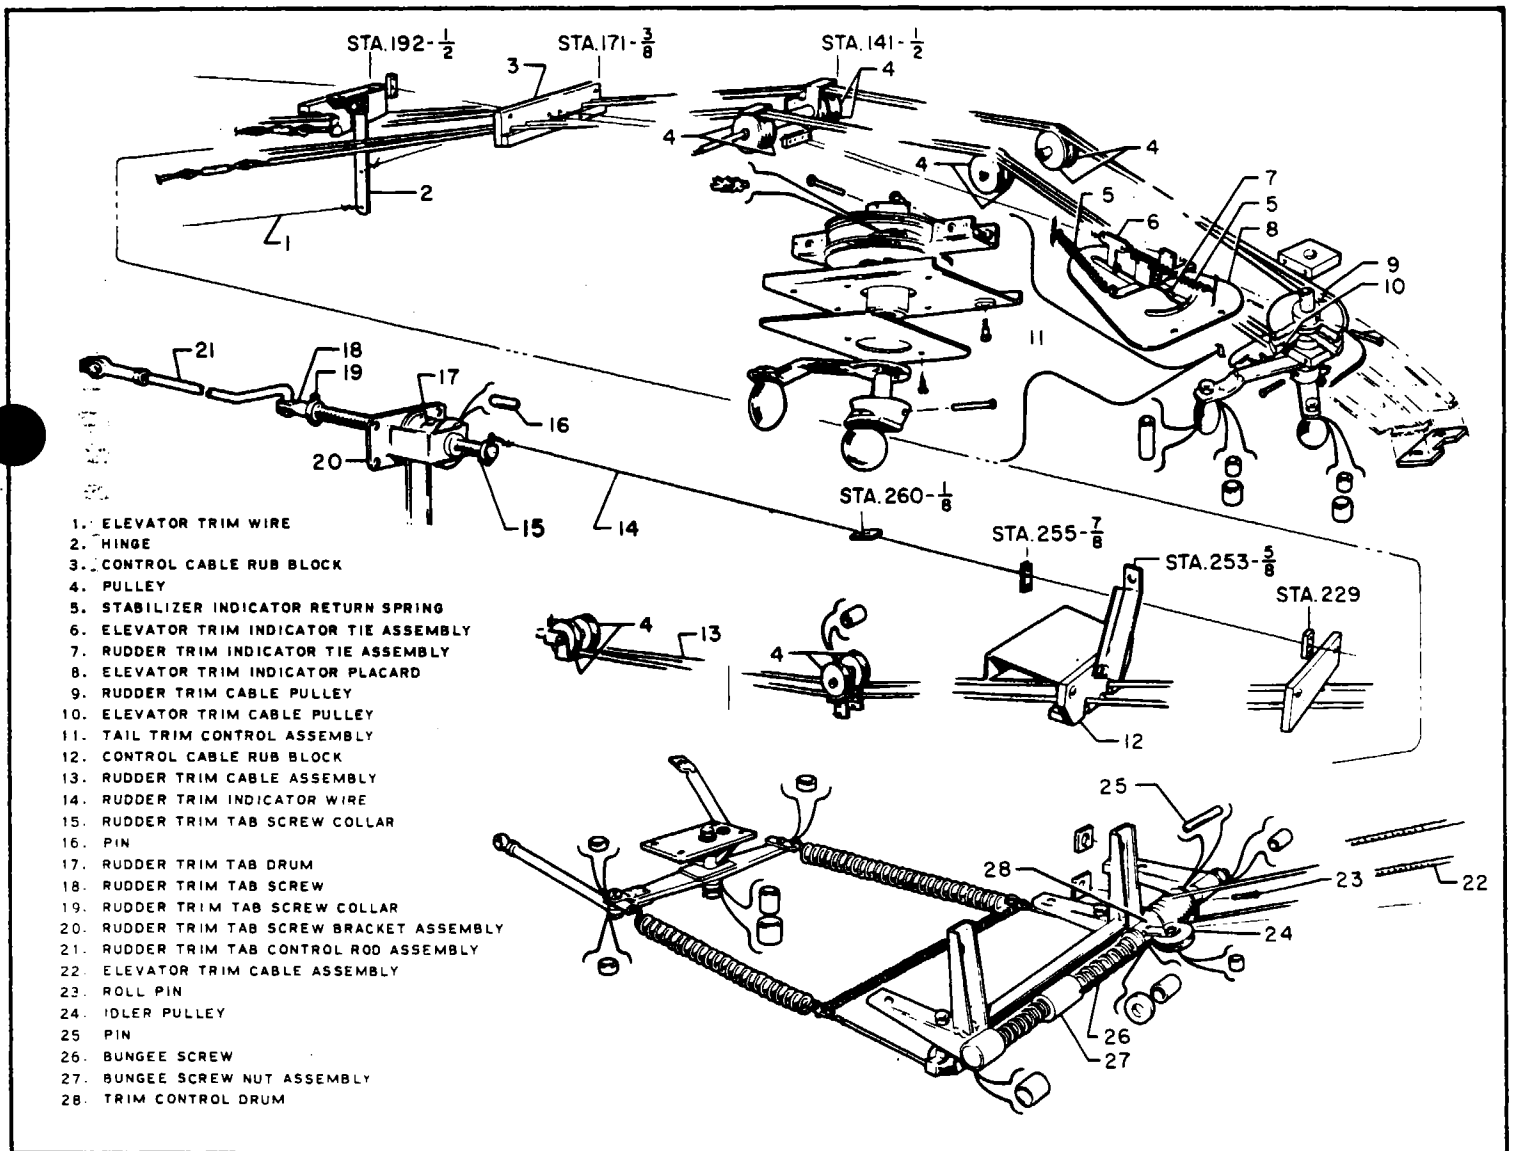
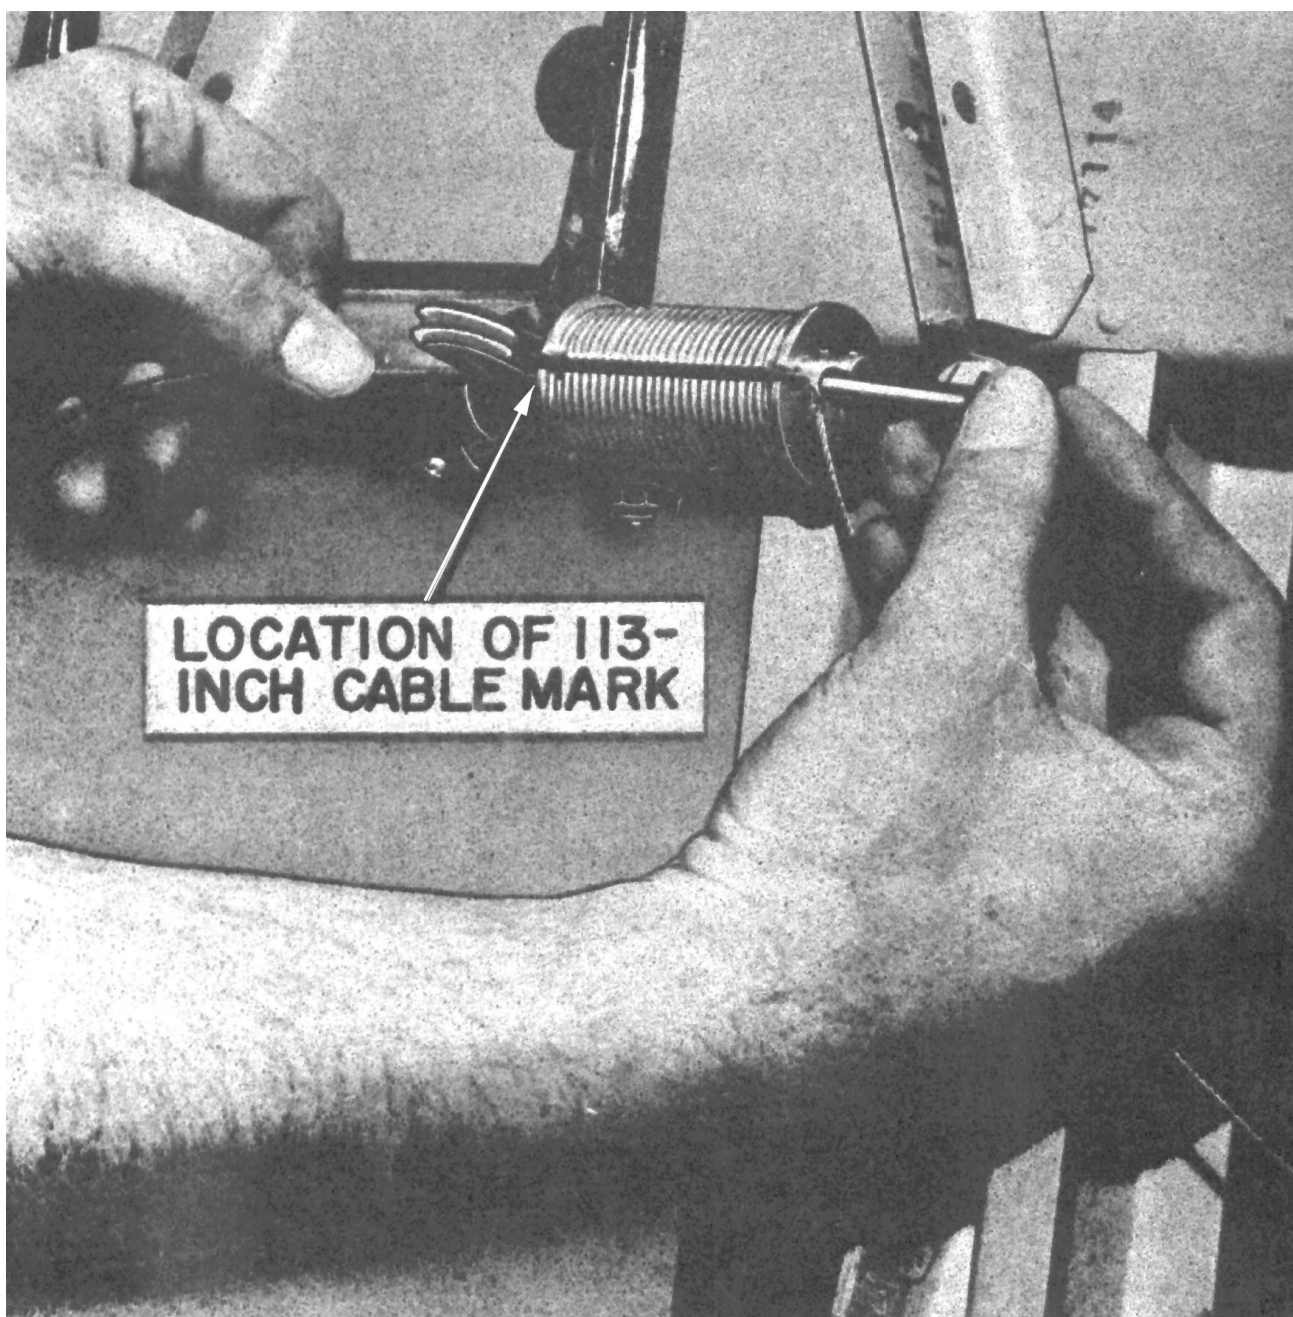

Figure 5-4. Tail Trim Mechanism Installation
Figure 5-9. Installing Elevator Trim Drum Cable Locking Pin
#### 5-7. REMOVAL AND INSTALLATION OF THE TAIL TRIM MECHANISM INSTALLATION. Removal and installation of the tail trim mechanism installation must agree with the configuration of Figure 5-4. Refer to the rigging instruc-
5-8. REMOVAL AND INSTALLATION OF THE TAIL TRIM MECHANISM INDICATOR WIRES. Removal and installation of the indicator wires must agree with the configuration of Figure 5-4. Refer to the rigging instructions of Paragraphs 5-14 and 5-17 for the rudder and elevator trim indicator wires. Use 0.024 inch diameter wire for the indicator wires.
a. Thread the rudder trim cable assembly (13, Figure 5-4) through the second slot from the right end of the control cable rub block (3) attached to the top of the bulkhead at Station 171-3/8, just aft of the tubular structure. Pass it over the two inboard right vertical pulleys (4), around the right side of the top pulley and the rudder trim cable pulley (9) at the tail trim control assembly (11). See Figure 7-4 for the rigging configuration.
b. Mark a point 43-1/2 inches forward of the control cable rub block (12). The
i. Position the rear rudder trim tab screw collar (19, Figure 5-4) on the rudder trim tab screw (18) and insert the cotter pin. The wider edge of the collar should be forward.
a. Reach into the rudder trim tab screw hole in the fin rear spar, grasp the 0.024-inch diameter indicator wire (14, Figure 5-4) and pull the wire through the head of the cotter pin, which secures the forward rudder trim tab screw collar (15) to the trim tab screw (18).
b. Thread the indicator wire forward, in accordance with the rigging diagram. (Refer to Figure 5-4.)
c. Pass the wire through the head of the cotter pin at the left of the rudder trim indicator tee assembly (7) at the tail trim control assembly (11).
e. Twist the tee assembly clockwise (looking up) against the tension of the stabilizer indicator return spring (5) until the tee pin is in its most forward position. Maintain this position with the indicator wire by folding it back on the cotter pin, and twisting it around the main strand approximately seven times.
- a. Thread the bare end of the elevator trim cable assembly (22, Figure 5-4) completely through the right slot of the control cable rub block (3) at Station
b. Pass the cable over the two outboard right vertical pulleys (4) at the top of the cockpit, then around the right side of the lower pulley, the elevator trim cable pulley (10), at the tail trim control assembly (11). Thread the cable back to the rub block at Station 171-3/8. (Refer to Figure 5-4.)
d. Rotate the bungee screw (26) clockwise by means of the nut at the left end of the screw until the floating bungee screw nut assembly (27) bears against the trim control drum (28). The direction of rotation is established by viewing the screw from its nut end. Alter this adjustment slightly, so as to bring the slot in the drum face forward.
e. Place the cable in the drum slot with the bare end of the cable directed to the right and position the mark previously made in the cable at the right side of the cable (Refer to Figure 5-9.) (25) in the drum slot to secure the location of the cable. (Refer to Figure 5-9.)
- l. Check the floating nut to see if it is bearing against the support bracket assembly. If it is not, press out the roll pin (23, Figure 5-4) from the drum hub and rotate the bungee screw by means of the nut at its left end until the floating nut is against the support bracket.